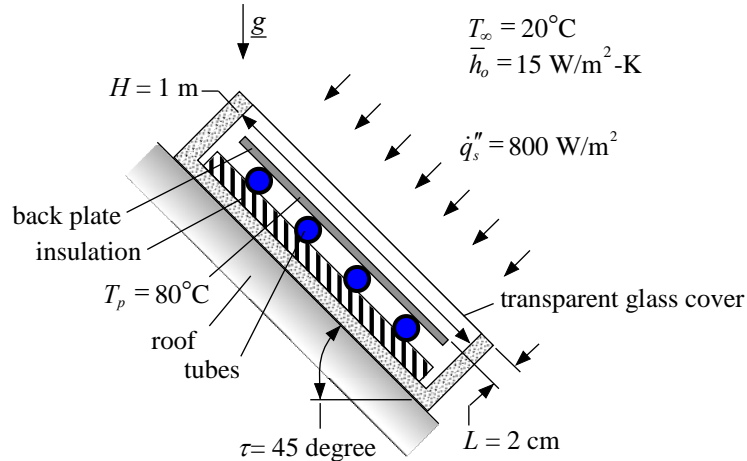

Figure P6.2-4: Flat plate solar collector
6.2-4 (6-3 in text) Figure P6.2-4 illustrates a flat plate solar collector that is mounted at an angle of $\tau = 45$ degrees on the roof of a house. The collector is used to heat water; a series of tubes are soldered to the back-side of a black plate. The collector plate is contained in a case with a glass cover.